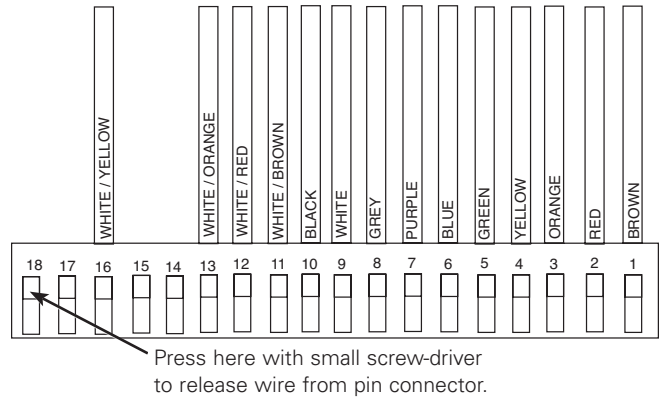

Figure 10. Pin connector for control circuit board shown with wires in factory locations
1. Place 2/0 jumper between B and C Phase of Load side of unit (See Figure 10).